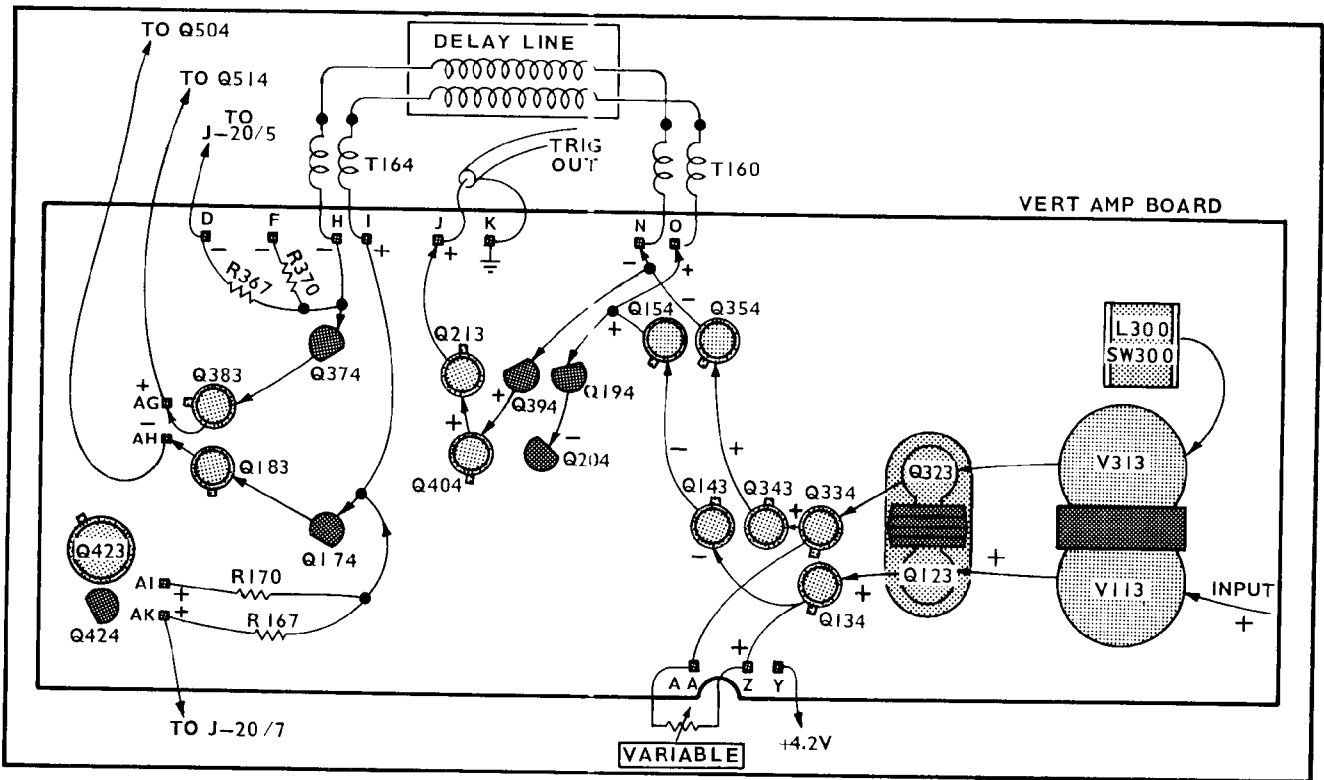

Fig. 4-1. Vertical Amplifier board transistor (and tube) locations with signal flow and phase noted.
1. If Q143 and Q343 (see Fig. 4-1) are operating with very low β (between 5 and 10), the crt will exhibit compression of a signal at either or both the crt top and bottom. The POSITION control has limited effect upon the display position. The dc voltages for a centered display are altered for the whole vertical amplifier beginning at Q134 and Q334 collectors.